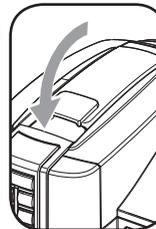

Fig. 3
- 10- Lower the lever to close the capsule compartment (Fig. 3).